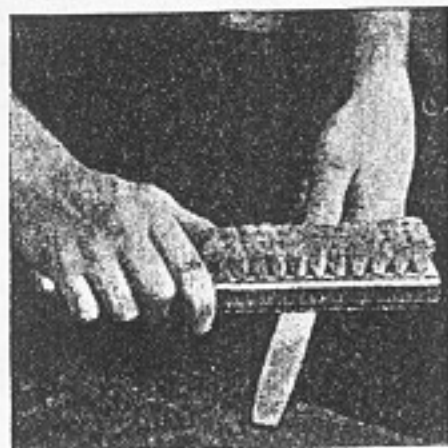

Fig. 31.—Brushing teeth of a file with a file card. The other side of this file card has a wire brush.
2. The alcohol remaining on the file will burn with a small, blue flame, consuming the wood wedged between the teeth. When the flame dies out, the teeth are cleaned by brushing them with a small wire brush called a *file card* (Fig. 31).